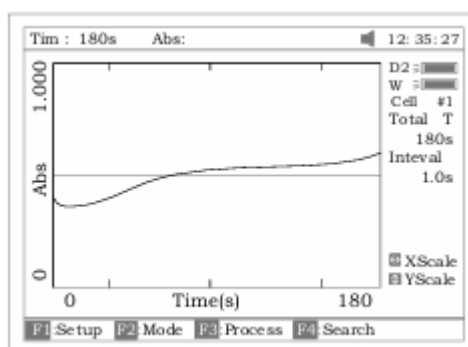

Fig 56
4. Pull the sample cuvette into the Main Light Path and press **[START]** to scan the sample. After the delay time, the beeper beeps 3 times and time -scan starts. At the end of the time scan, the beeper also beeps 3 times (Fig 56):
Press the key **【SAVE】** to save curve. Note: Load/Save requires the first kinetics display page Fig. 56. Press **ESC** if in Search to return to the required page.